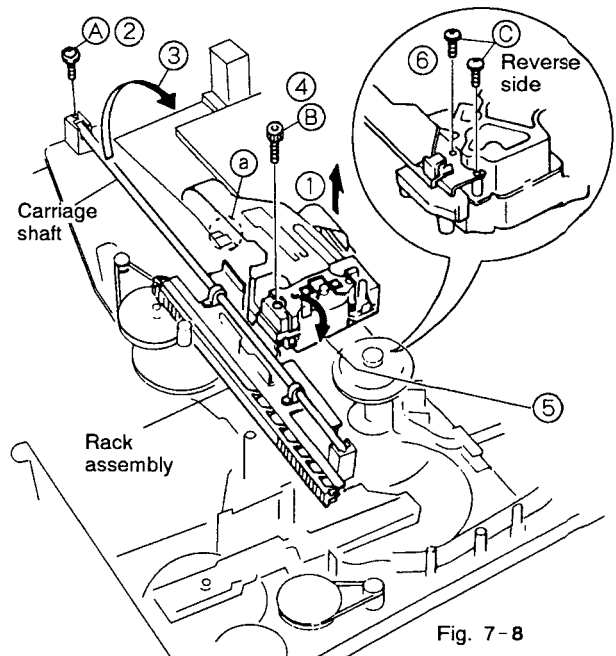

Fig. 7-8
7.6 REMOVING THE PICKUP ASSEMBLY (Fig. 7-8)
- ① Remove the flexible cable from the connector and also remove the flexible cable installed at section (a).
- ② Remove a screw (A) holding the carriage shaft.
- ③ Raise the shaft in the direction of the arrow to remove the rack assembly.
- ④ Remove a hexagonal screw (B) and lift up the pickup assembly slightly and turn the pickup assembly in the direction of arrow (5).
- ⑤ Remove two screws (C) on the back of the pickup assembly.